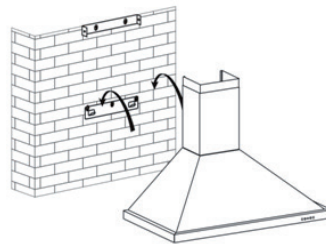

Figure 6
6. Lift up the rangehood and hang onto the wall bracket hook. (Figure 6)